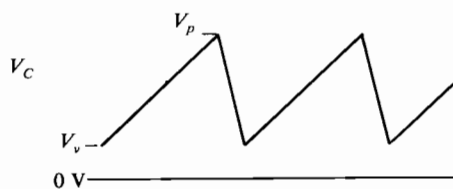

FIGURE 29-4 Capacitor voltage waveform.
12. Using the capacitor voltage waveform shown in Figure 29-4 as a guide, measure the maximum voltage (V_p) and the minimum voltage (V_v) with respect to ground, and record your results in Table 29-2. Using the experimental value for V_p and assuming a diode voltage V_D of 0.7 V, determine the UJT's intrinsic standoff ratio (η) from Equation 2. Record this value in Table 29-2.